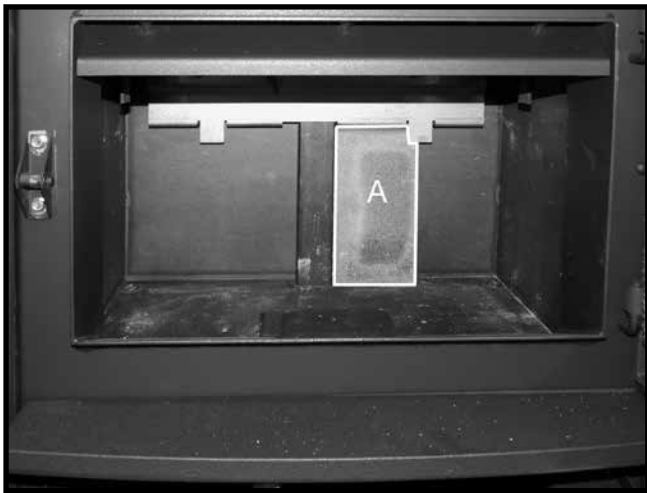

Figure 27: Installing the 1st of the rear wall firebricks.
1. Stand one "A" firebrick vertically behind the tab located on the brick rail. Slide the firebrick toward the center of the rear wall (Figure 27).